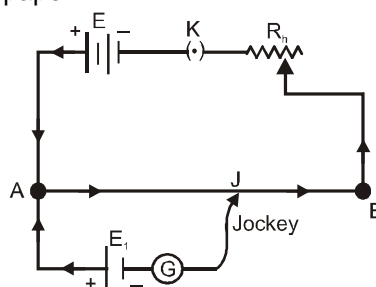

fig. 1
1. Draw a diagram showing the scheme of connections as in fig. 1
3. Connect the positive pole of the auxiliary battery (a battery of constant e.m.f) to the zero end (A) of the potentiometer and the negative pole through a one-way-key, an ammeter and a low resistance rheostat to the other end of the potentiometer. Connect the positive pole of the cells E1 and E2 to the terminal at the zero end (A) and the negative poles to terminal a and b of the two way key connect the common terminal c of the two way key through a galvanometer (G) and a resistance box (R.B) to the jockey.
4. To test the connections : Introduce the plug in position in the one-way-key (K) in auxiliary circuit and also in between the terminal a and c of the two-way-key. Take out a 2,000 ohms plug from the resistance box (R.B). Press the jockey at the zero end and note the direction of deflection in the galvanometer. Press the jockey at the other end of the potentiometer wire; if the direction of deflection is opposite to that in the first case, the connections are correct. If the direction of deflection is in the same direction then increase the current in the auxiliary circuit with a rheostat till the deflection obtained in the galvanometer is in the opposite direction when the jockey is pressed at the other end.